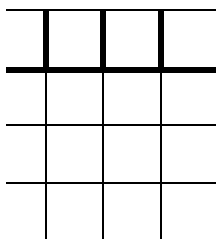

Fig. 2
**8.8.5.** (Figure 2) Before laying the next row of tiles, lay a row of full-size divider strips along the first row. Use a hand roller to be sure the strips make full contact with the adhesive.